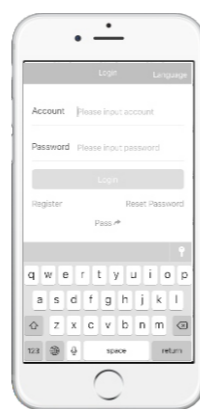

fig.5
1. Enter the login interface (Fig.5). (For the first time users, please click "Register")